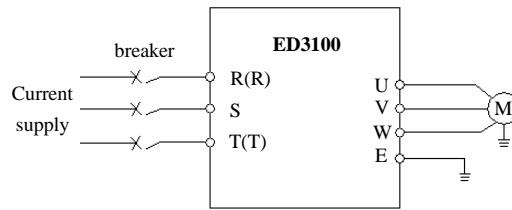

Fig 3-3 Main circuit simple wiring
- (1) ---Be sure to cut the power supply above 10 minutes before wiring, otherwise , an electric shock can occur.
- (2) ---Do not connect AC power to output terminal U, V, W.
- (3) ---- When leakage current exists in inverter, for safety inverter and motor should be grounded. The grounding cable is copper wire with diameter above 3.5mm^2 , and the grounding resistor should be less than $10\ \Omega$.
- (4) ----The Inverter had already pass through voltage withstand tests, so the end users shall not perform it again.
- (5) ---- Electromagnetic contactor and absorbing capacitor unit were not allowed to be added between the inverter and the motor, as illustrated in fig. 3-3.
- (6) ---- For convenience of overcurrent protection and power failure maintenance, the Inverter should be connected with power supply by middle current braker.
- (7) ---- Wiring of input and output circuit (DI1-DI6, DO1, DO2, DO3), should use bunch wire or shielded wire with diameter above 0.75mm^2 , one side of the wire hovering, the other side connect with E Terminal of the Inverter, the connection cable should less than 50m.